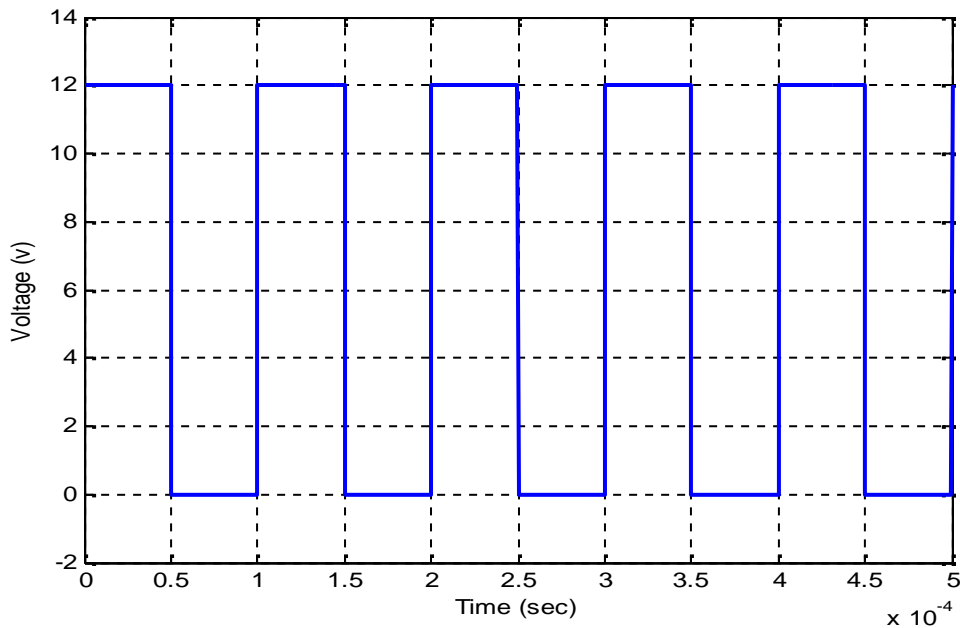

Figure 3.16 Digital Signal generated from motor encoder
- The digital signals that are generated from this encoder have 12-volts amplitude (see figure 3.16).